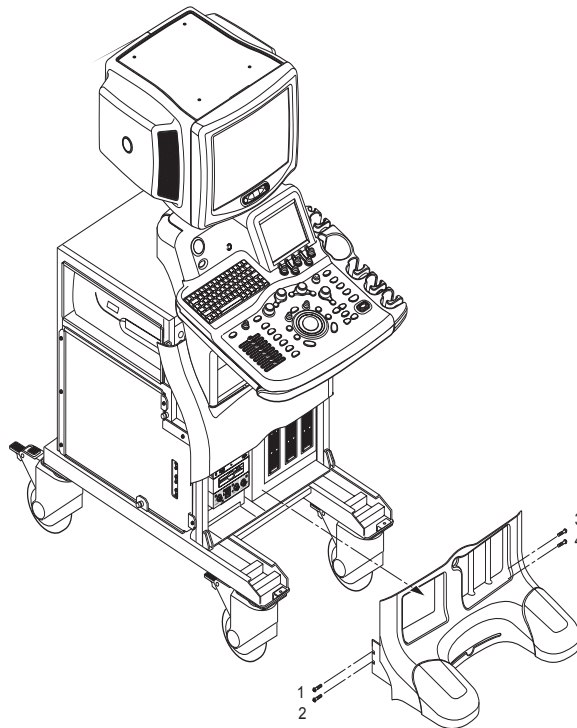

Figure 8-83 Removing the Front Base Cover
- 4.) Remove the Front Base Cover. Refer to Figure 8-83 on page 8-38 .